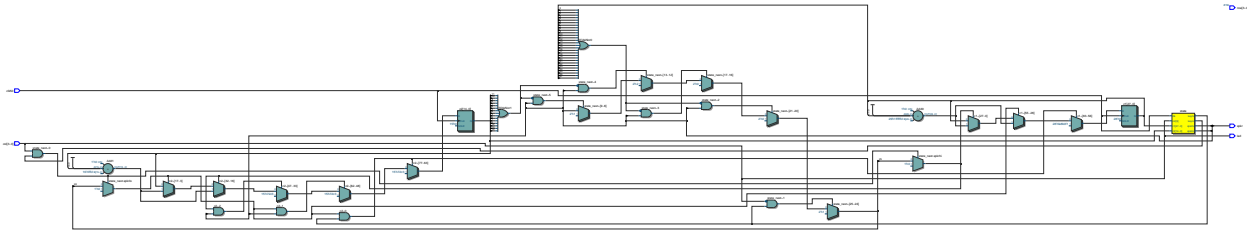

Figure 1: Example RTL Schematic for Lab 4.
- (c) The schematic created by **Tools > Netlist Viewers > RTL Viewer** and then **File > Export....** The schematic might look like Figure 1.
2. If you do not demonstrate your completed lab in person, submit a short video, including audio, showing: (1) the tone generated by a button press shorter than the tone duration, (2) a button press longer than the tone duration, and (3) that no tone is generated when pressing a button on a different row and a different column. The audio should be audible. An example video is available on the course website.